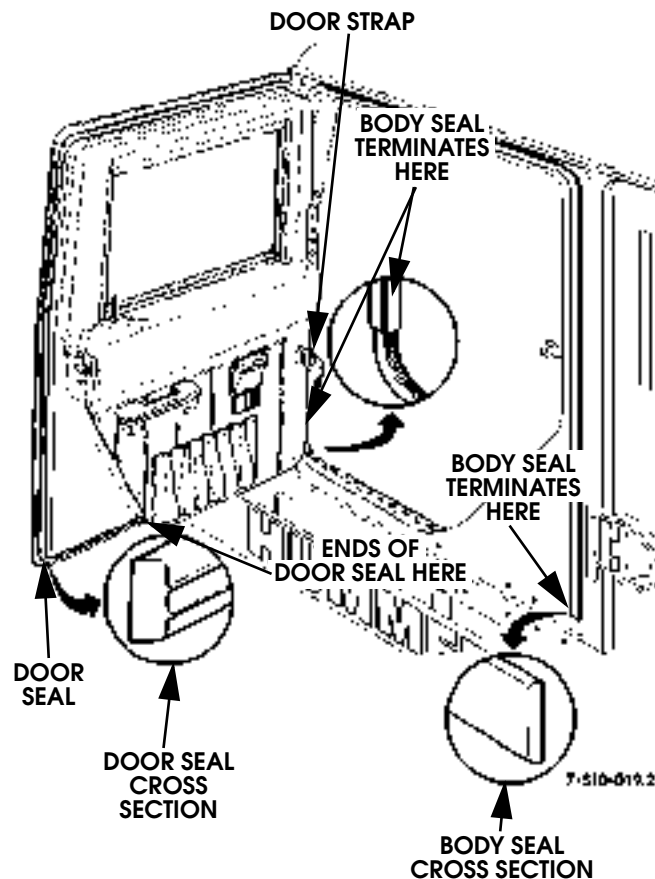

Figure 10-69: Door and Body Seal Replacement
2. Beginning at the bottom of the door, press door seal around the outside of the door frame (Figure 10-69).